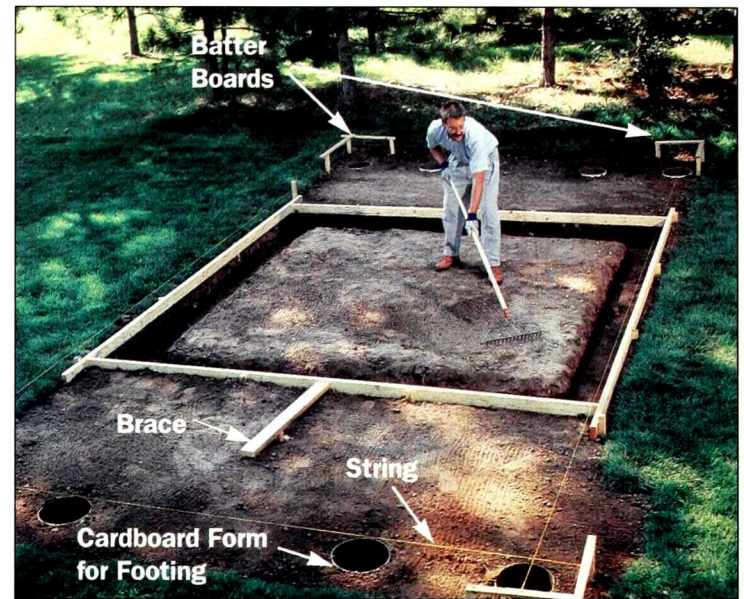

Figure 2: Dig out and level the area for the concrete slab and dig holes for the eave post footings. Strings and batter boards locate the footings.
- Stretch strings between batter boards to determine the location of the eave post footings (Figure 2). Dig these footings to the appropriate frost depth for your area using a post-hole digger and shovel, then tamp the bottom of each hole firmly with the end of a 2x4.